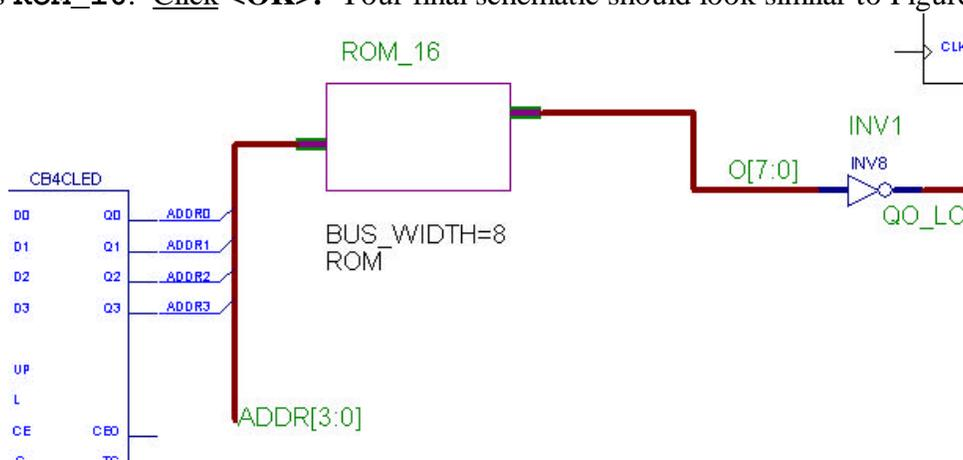

Figure 1
Hint: Place the **MYROM** symbol so that the bottom of the symbol is above the top of the **CB4CLED** outputs, as shown in the diagram, Figure 1. This will make it easiest to connect wires to the bus taps in the next step.
- 21) Name your ROM symbol by double-clicking on it and setting the **Reference** to some name such as **ROM_16**. Click <OK>. Your final schematic should look similar to Figure 1, below: